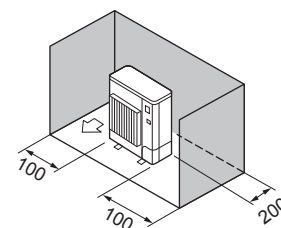

Fig. 3-8
- ③ Obstacles at rear and sides only (Fig. 3-8)